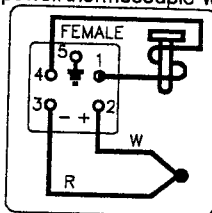

Figure 4 - Power/Thermocouple Connector Wiring Diagram
1. **MOLD POWER/THERMOCOUPLE CONNECTOR:** Is connected to the mold heater and thermocouple connections. Figure 4 show the power/thermocouple wiring diagram .